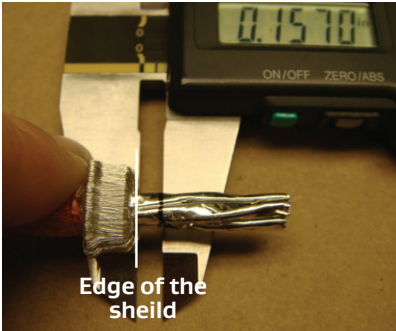

Figure 58: Marking the foil tape
8. Mark the foil tape of each twisted pair at 0.157 inches \pm 0.025 inches from the edge of the braid wire (Figure 58).